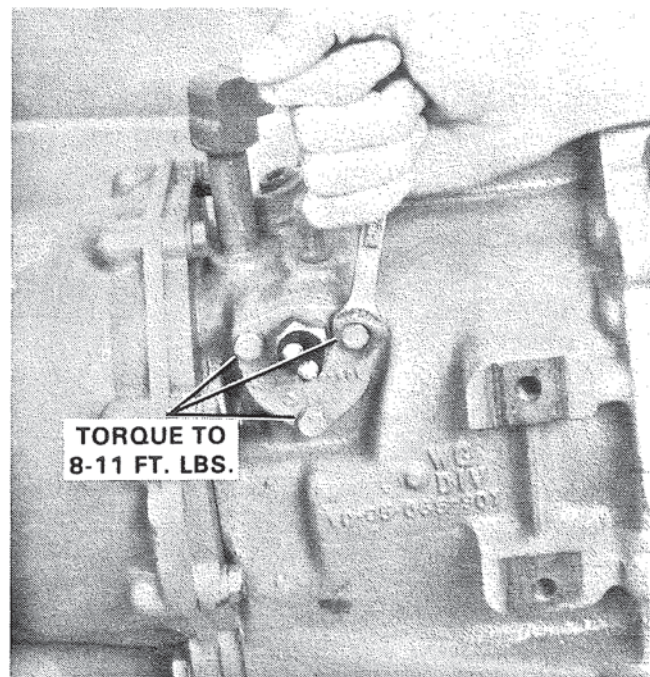

Figure 89. Securing Valve Cover Assembly.
3. Assemble the valve cover gasket, valve cover, lockwashers and hex head bolts. Torque hex head bolts to 8 - 11 ft. lbs. (1.10 - 1.52 kg/m). Figure 89.
1. Unscrew three (3) hex head bolts, remove valve cover and gasket. Figure 89. Discard valve cover, gasket hex head bolts and lockwashers.